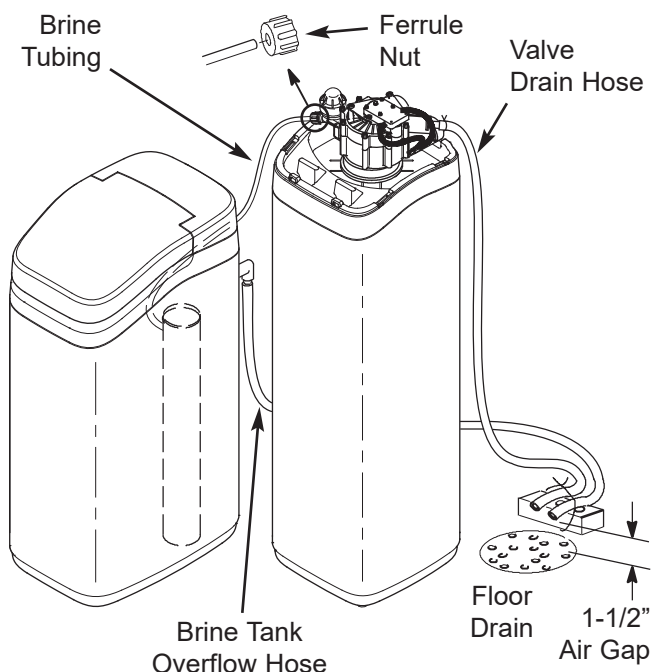

FIG. 12
- Connect the brine tube to the nozzle/venturi assembly using the ferrule nut provided (See Figure 12).